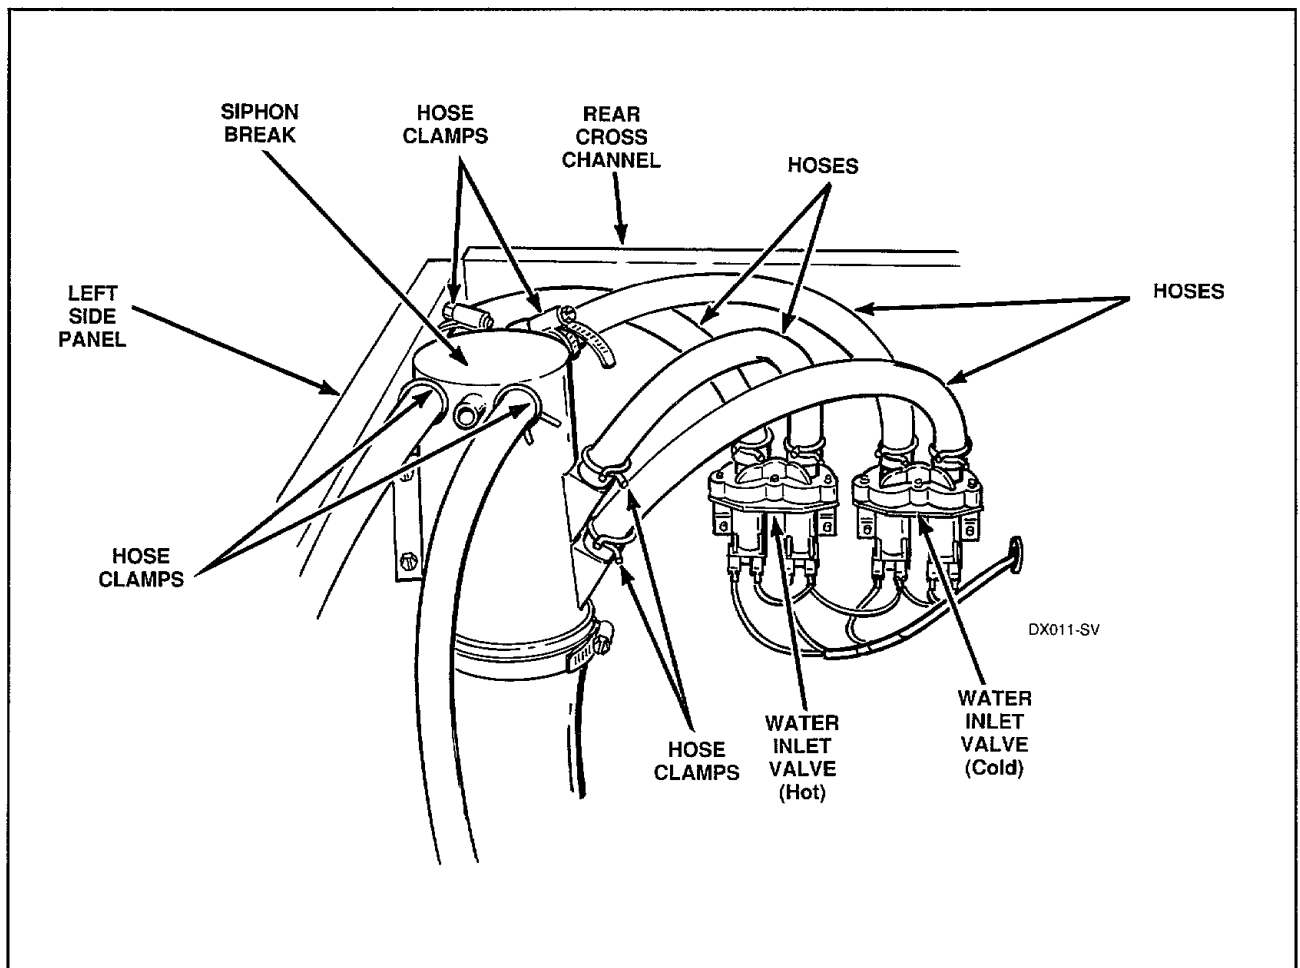

Figure 17
- c. Disconnect wires from inlet valve solenoid, *Figure 17*.
- d. Loosen hose clamps and remove hoses from the water inlet valve, *Figure 17*.